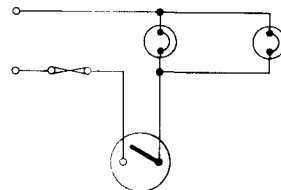

Fig. 3.177
7. Redraw the circuit in Fig. 3.177 showing the live conductor with a full line and the neutral conductor by a dotted line.